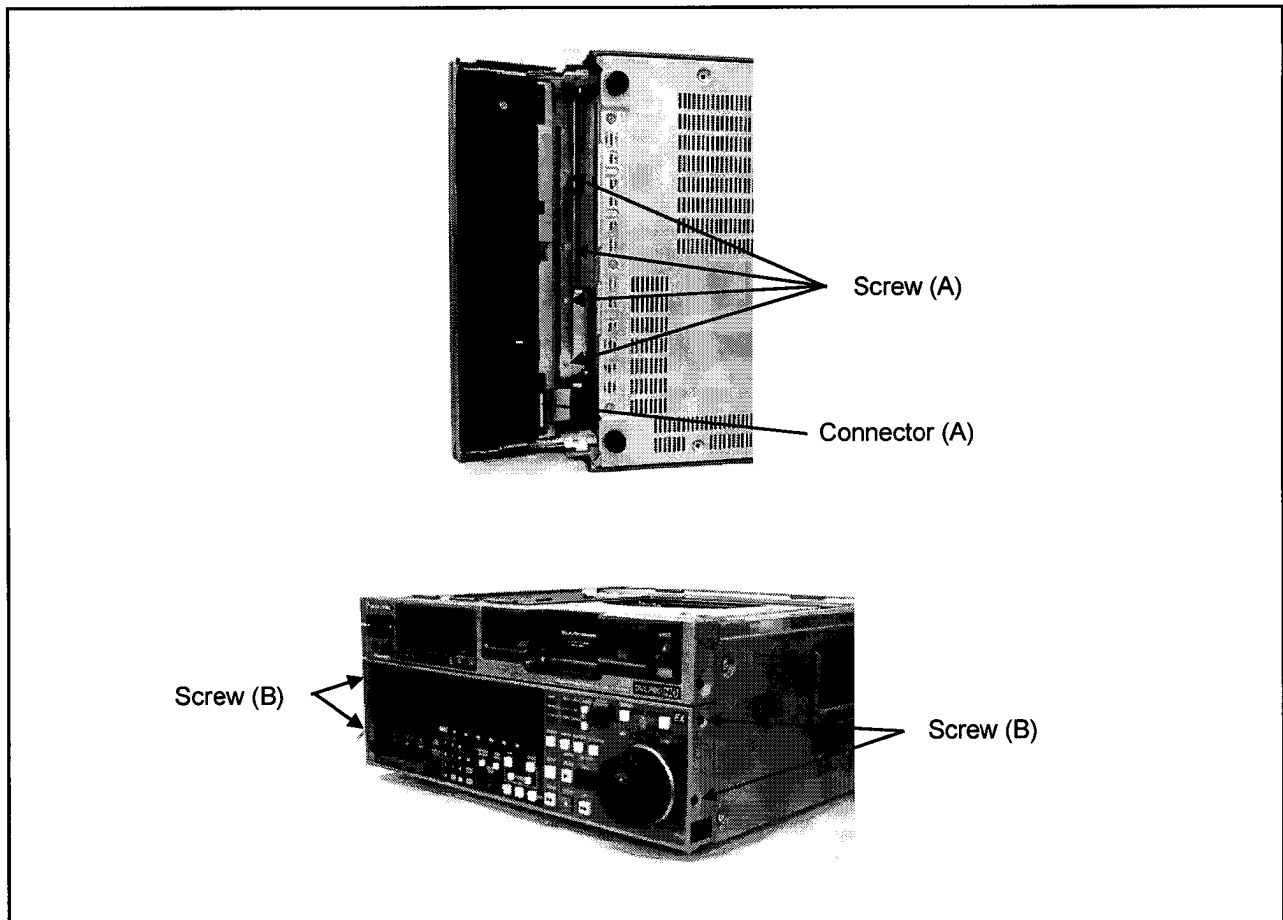

Figure 4-1
2. Open the Lower Front Panel and unscrew the 4 screws (A) as shown in figure 4-1.
3. Disconnect the connector (A) as shown in figure 4-1.
4. Unscrew the 4 screws (B) as shown in figure 4-1 and remove the Lower Front Panel.